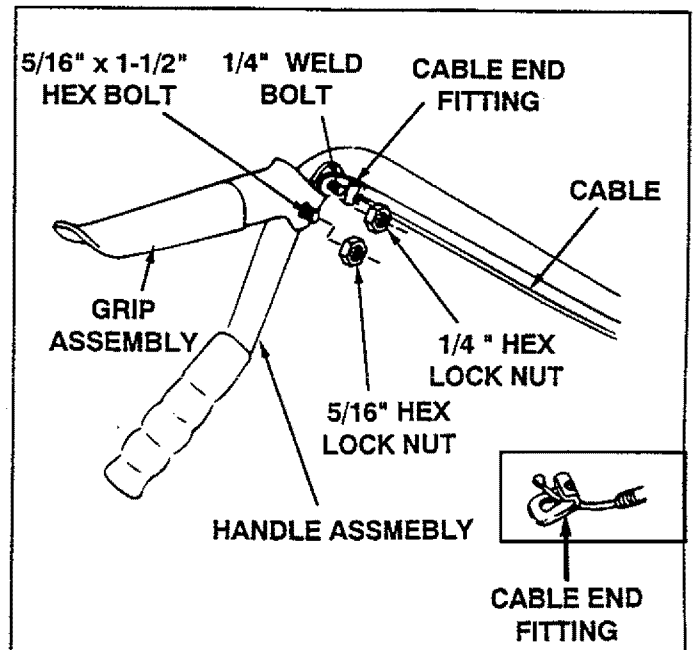

FIGURE 28 (Right Hand Side View)
- Assemble grip assembly to handle assembly using one 5/16 inch x 1-1/2 inch hex bolt and one 5/16 inch hex lock nut. **Do not overtighten** lock nut; grip assembly must pivot freely. See figure 28.
- Assemble ball end of cable to a cable end fitting as was done previously to other end of cable. Secure cable end fitting to handle assembly with a 1/4 inch hex lock nut. **Do not overtighten** lock nut; cable fitting must pivot freely. See figure 28.